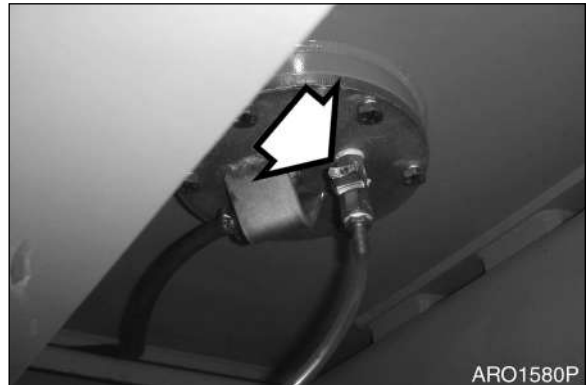

Figure 6
- Place a large enough container under the tank to collect remaining fuel. Open drain valve (Figure 6) at bottom of tank and empty tank.